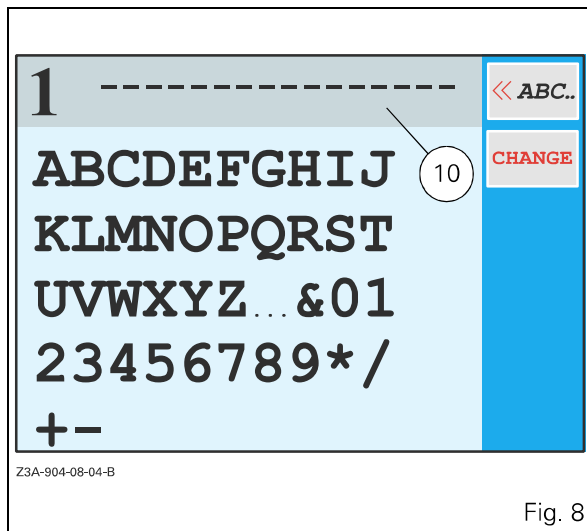

Fig. 8
When the window (Fig. 7) is open, press the key  $\ll_1$  to display the first memory menu. The window (Fig. 8) is displayed.
**NOTE:** If no implement name has been saved, a sequence of hyphens is displayed (10 Fig. 8).